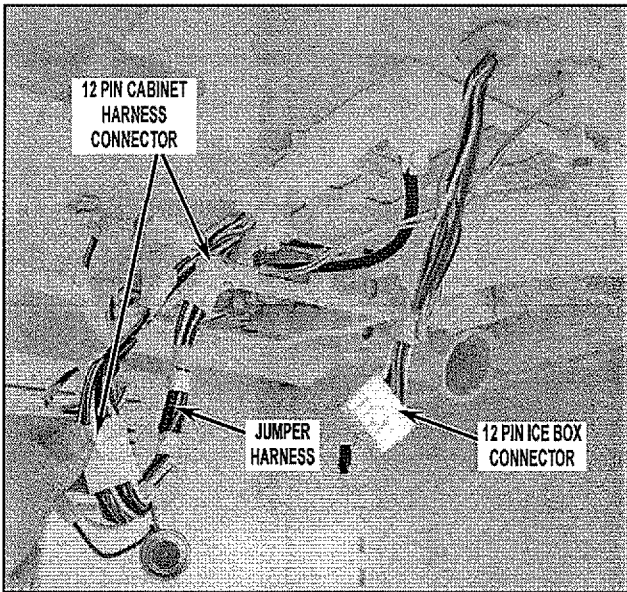

FIGURE 9
11. Connect 12 pin jumper harness supplied with kit to rear 12 pin cabinet harness connectors with larger size wires. See Figure 9.
12. Disconnect electrical connections to ice box assembly. See Figure 9 and 10.